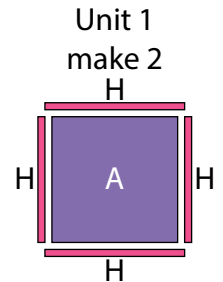

Fig. 1
1. Sew (1)  $1" \times 9\frac{1}{2}"$  Fabric H strip to each side of (1)  $9\frac{1}{2}"$  Fabric A square. Sew (1)  $1" \times 10\frac{1}{2}"$  Fabric H strip to the top and to the bottom of the Fabric A square to make (1) Unit 1 square (Fig. 1). Repeat to make a second Unit 1 square.